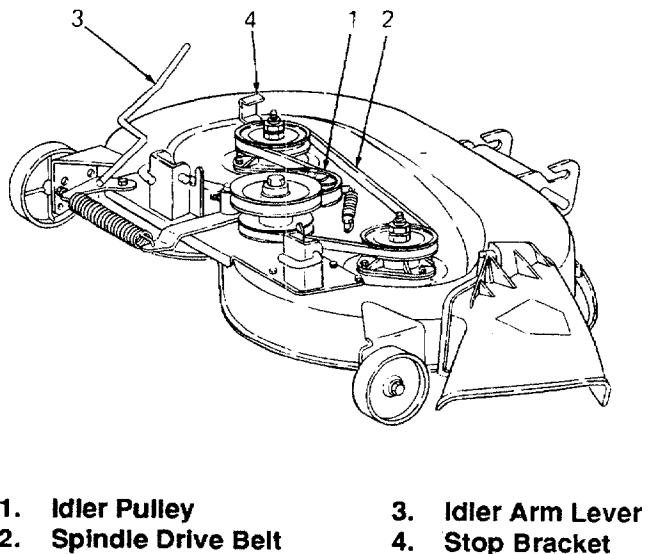

Figure 60
5. Install a new belt. Refer to Figure 60 for proper placement of belt.